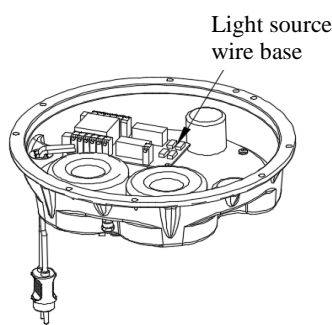

Figure 4-5
- Pull out the light source component pin from the light source binding post of the circuit board of the inner cover component (Figure 4-5);